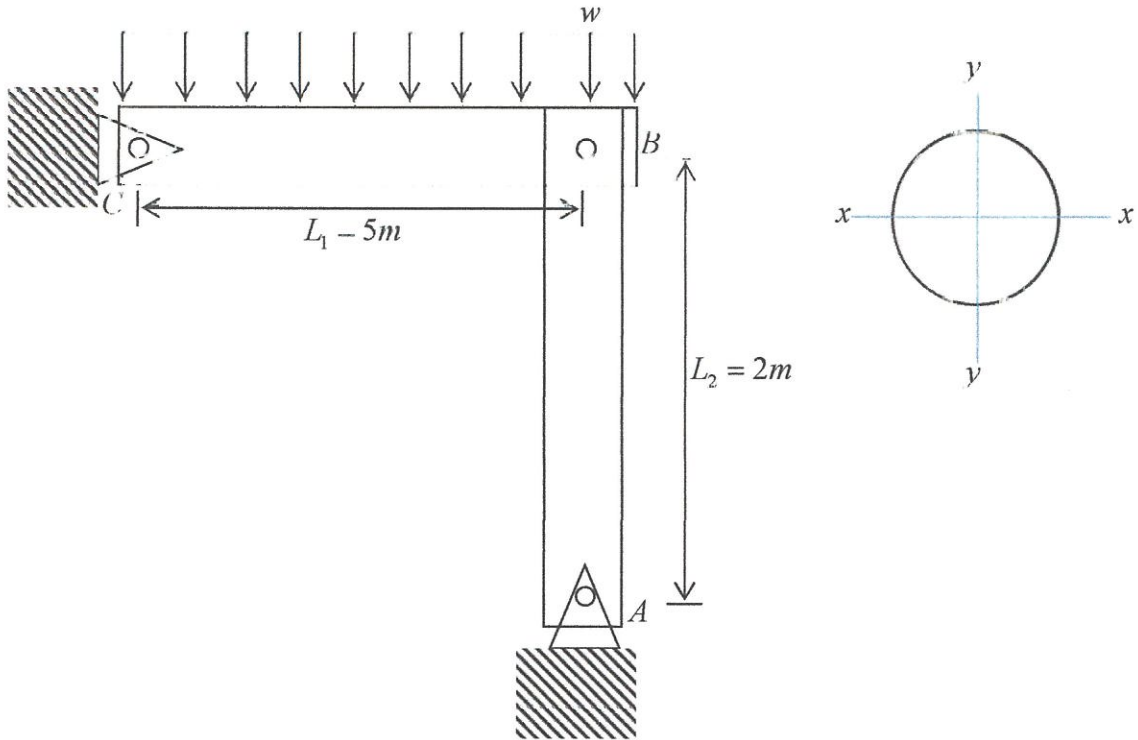

Figure Q3
- Q3** A horizontal beam BC is subjected to uniformly distributed load, w and at the same time it is supported at end B by a column AB (diameter of 50 mm) as shown in **Figure Q3**. Assume that all bars are pin-connected.